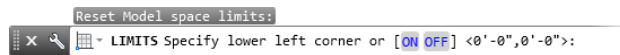

FIGURE 3.8: The Command window after starting the LIMITS command
1. Make sure the Command window displays the **Type a command** prompt; then type **LIMITS**.␣. Notice how the command-line interface appears, as shown in Figure 3.8.